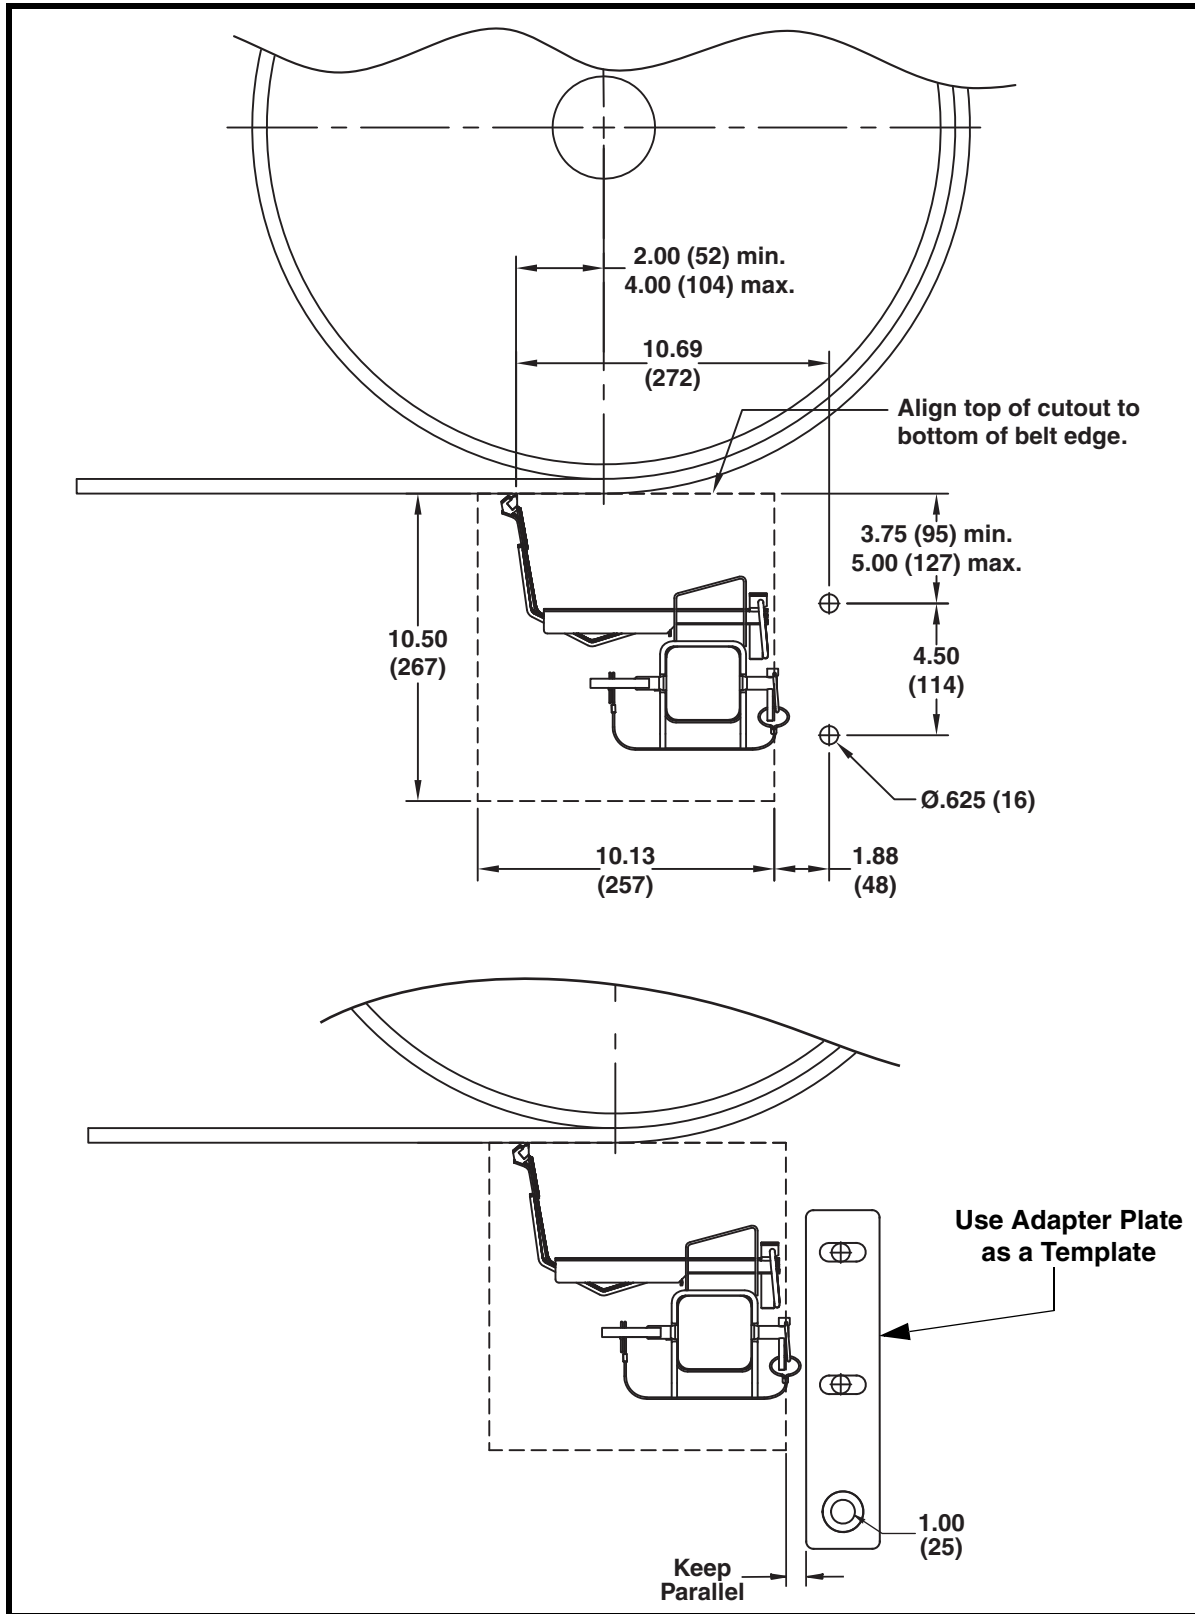

Figure 1. Mounting Location
1. Mark the chute cutout and mount hole locations as shown in Figure 1. Repeat on both sides of chute, ensuring cutouts are accurately aligned with each other.
4. Slide blade cartridge onto mainframe with blade positioned as shown in Figure 1. Push far side end of blade against stationary pin until it locks.
7. Tighten nut (H) and set screw (I).